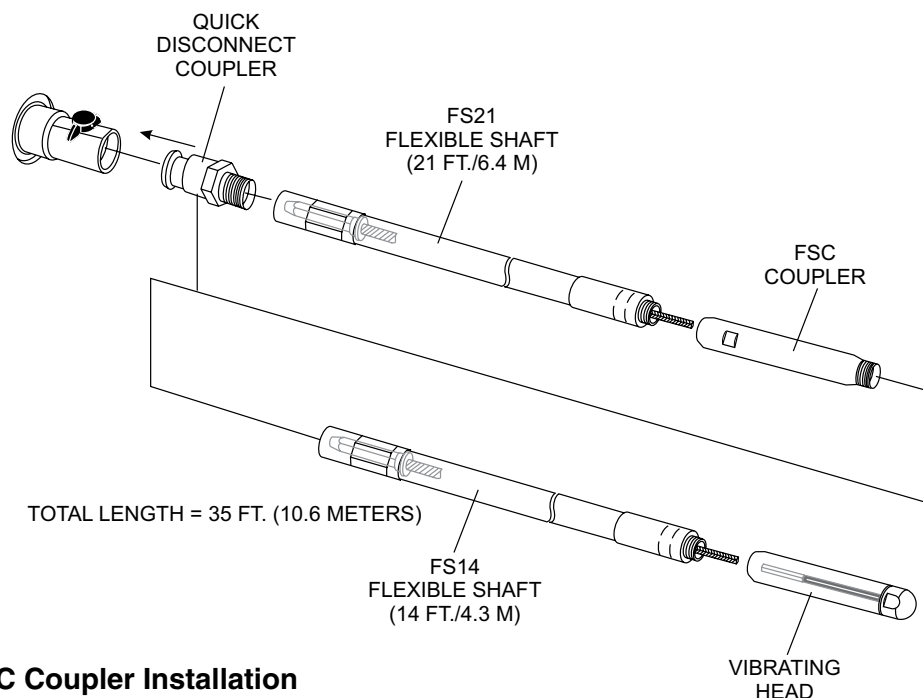

Figure 6. FSC Coupler Installation
1. Install FSC shaft coupler as shown in Figure 6.